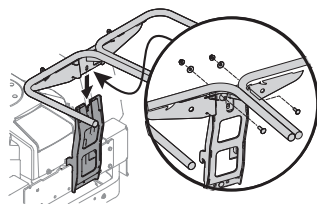

Figure 11
1. Install the hanger assembly onto the support bracket using two carriage bolts (710-0276), two cup washers (736-0242) and two lock washers (712-04063) from hardware pack 689-02364. See Figure 11.